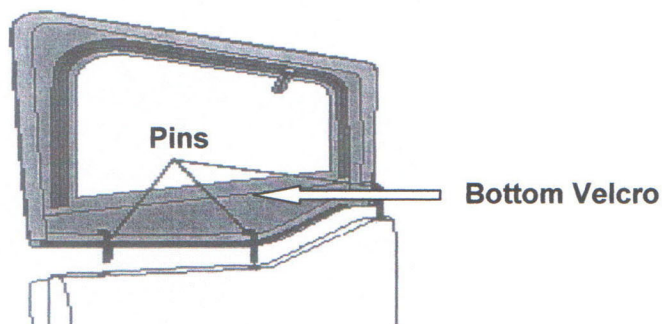

Figure 28
19. Now tighten the bottom velcro to achieve the desired fabric to frame to retaining strip tension (Figure 28).